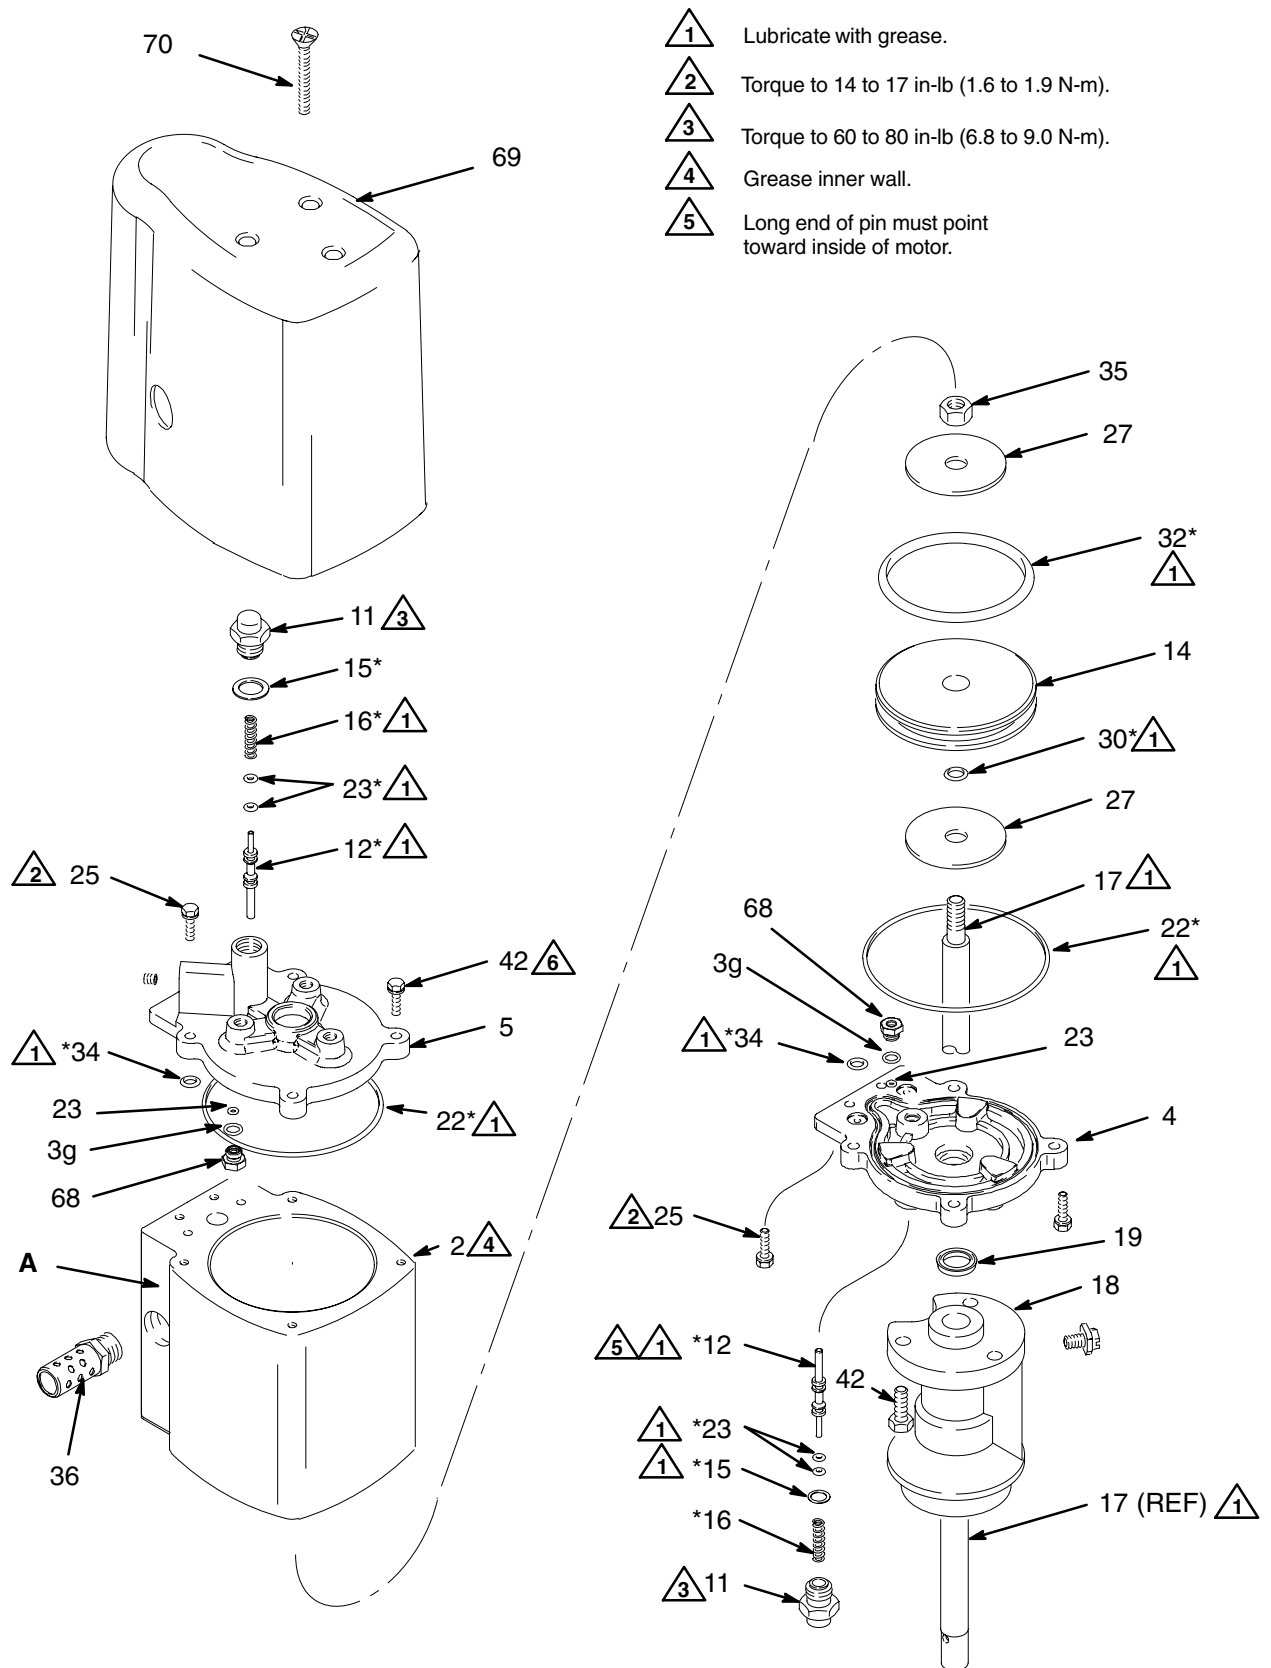

Fig. 11
1. Disconnect the air motor (1) from the displacement pump, as explained on page 15.
2. Remove the six screws (25 and 42) holding the bottom cylinder cap (4) to the cylinder (2). Lift the cylinder off the cap to expose the piston (14). See Fig. 11.
3. Pull the piston (14) and piston rod (18) out of the outlet housing (18) and bottom cylinder cap (4).
4. Remove the piston o-ring (32*). Insert a punch in the hole at the end of the piston rod (18) to hold it steady, and unscrew the nut (35) from the rod. Remove the two washers (27), o-ring (32*) and piston (14).
5. Stand the cylinder (2) upright. Remove the six screws (25 and 42) and lift off the top cap (5).
7. Remove the large o-ring (22*) and two small o-rings (34*) from the inside of the top cylinder cap (5). Remove o-rings (3g), (23) and the pilot plug (68). Repeat for the bottom cylinder cap (4).
1. Grease the large o-ring (22*) and the two small o-rings (34*) and install them on the top cylinder cap (5). Install o-rings (3g), (23) and the pilot plug (68). Repeat for the bottom cylinder cap (4). See Fig. 11.
2. Install the top cap (5) on the cylinder (2). Be sure that the large o-ring (22*) does not roll out of the groove. Install two M4 screws (25) in the square section of the cap and four M5 screws (42) in the tabs. Torque the two M4 screws (25) to 14 to 17 in-lb (1.6 to 1.9 N-m) and the four M5 screws (42) to 35 to 45 in-lb (4.0 to 5.1 N-m).
3. Install a washer (27), an o-ring (32*), the piston (14), *with the chamfer facing down toward the o-ring (3g)*, and a washer (27) on the piston rod (17). Screw the self-locking nut (35) onto the rod. Install the o-ring (32*) on the piston (14), and lubricate the o-ring.
4. Grease the piston rod (17) and the inner wall of the cylinder (2).
5. Insert the piston rod (17) into the bottom cap (4) and the outlet housing (18), being careful not to damage the u-cup packing (19) inside the cap.
6. Install the cylinder (2) down over the piston (14). Be sure that the large o-ring (22*) does not roll out of the groove. Install the screws (25 and 42) in the bottom cap (4), as explained in step 2.
7. Reconnect the air motor (1) to the displacement pump, as explained on page 15.
1. Remove the air motor cover (69).
2. Remove the actuator valve plug (11) from the top cap (5). Inspect the sealing gasket (15*) and spring (16*) in place on the plug. If the gasket needs replacement, thread it off the plug (11). See Fig. 11.
3. Pull the pin (12*) out of the top cap (5). Remove the two o-rings (23*) from the pin.
5. Repeat for the bottom cylinder cap (4).
1. If the o-ring (24*) was removed, it must be installed from the inside of the top cap (5). Lubricate the o-ring. See Fig. 11. Reinstall the top cap. See **Cylinder and Piston Service**.
2. Install the two o-rings (23*) on the pin (12*). Grease the pin and insert it in the top cap (5). The long end must point toward the inside of the motor.
3. Thread the gasket (15*) onto the plug (11). Grease the spring (16*) and install it in the plug. Screw the plug into the top cap (5) and torque to 60 to 80 in-lb (6.8 to 9.0 N-m).
4. Repeat for the bottom cylinder cap (4).
5. Replace the air motor cover (69).